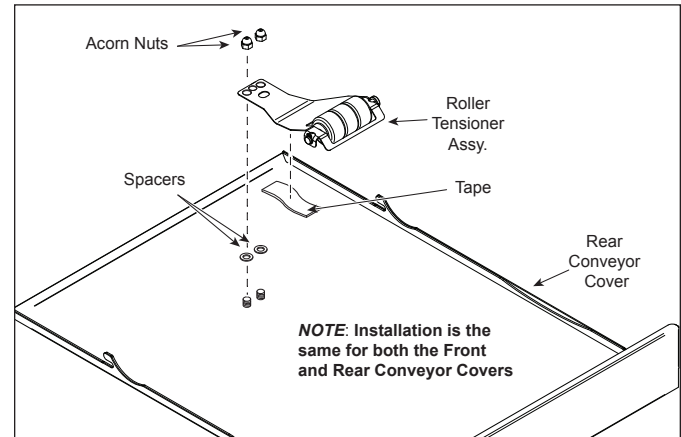

Figure 15. Measuring Roller Tensioner
2. Install the new Tensioner Assembly according to Figure 15.